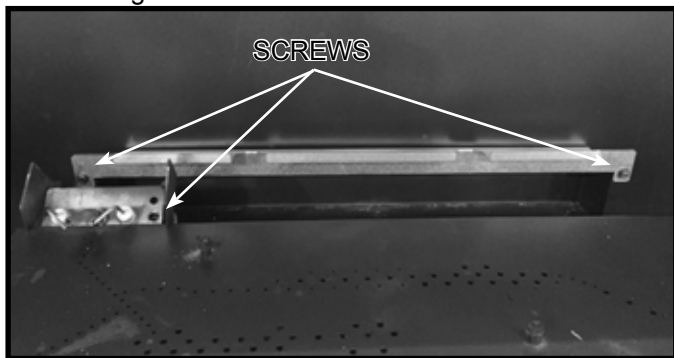

Figure 3. Rear Refractory Panel Bracket Installed
5. Install the rear refractory panel bracket by installing with two screws. Reattach pilot assembly to burner with one screw. Gently pull the pilot tube and pilot wires down, grasping them from beneath the firebox. See Figure 3.